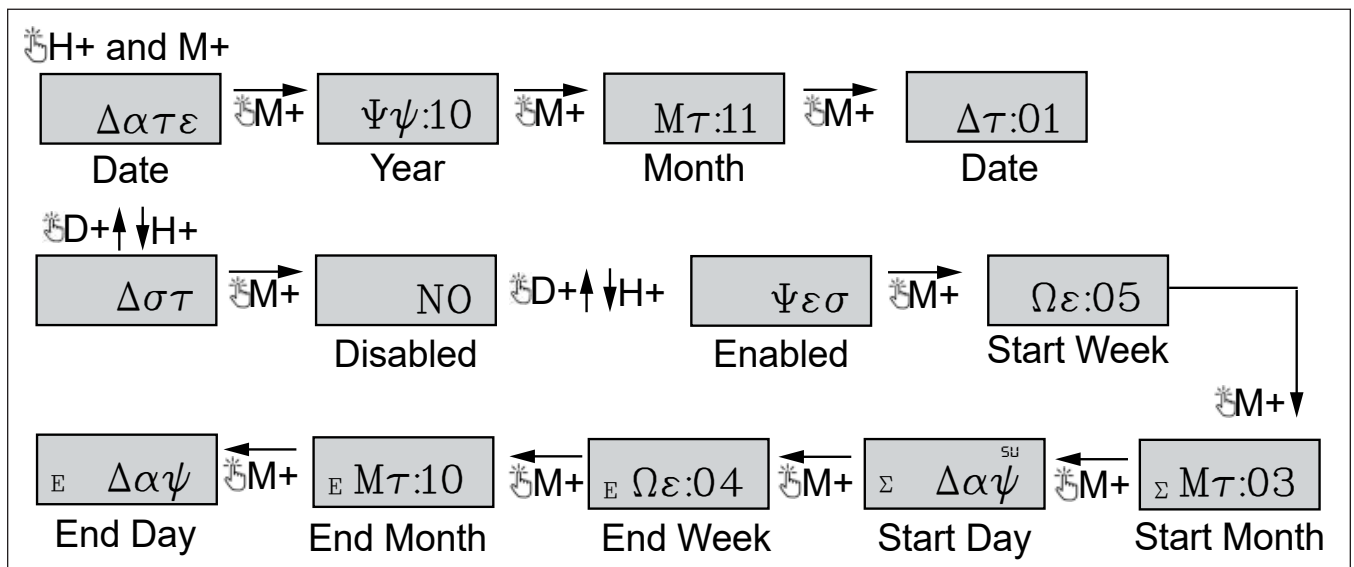

Figure 8.5 — DST and Date Settings
- The user can enter DST and the date as shown (refer to Figure 8.5).